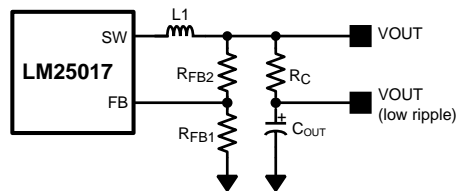

Figure 13. Low Ripple Output Configuration
This regulator regulates the output voltage based on ripple voltage at the feedback input, requiring a minimum amount of ESR for the output capacitor ( $C_{OUT}$ ). A minimum of 25mV of ripple voltage at the feedback pin (FB) is required for the LM25017. In cases where the capacitor ESR is too small, additional series resistance may be required ( $R_C$  in Figure 13 Low Ripple Output Configuration).
For applications where lower output voltage ripple is required the output can be taken directly from a low ESR output capacitor, as shown in Figure 13 Low Ripple Output Configuration. However,  $R_C$  slightly degrades the load regulation.